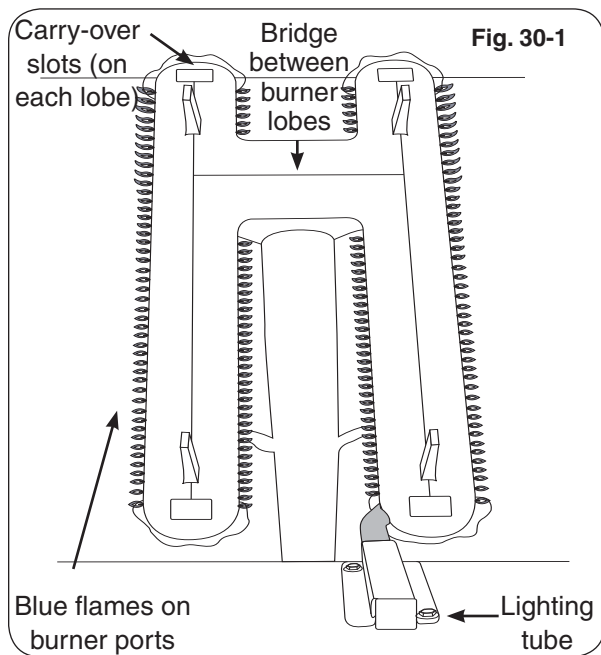

Fig. 30-1
Flames from a properly adjusted main burner with no wind or breeze present will appear fairly steady, consistent, and mostly blue. If the tip of a flame were to turn orange, it should only do so briefly and then become blue again. The flames will appear to burn while touching the burner ports (see Figure 30-1).
5. Repeat steps 1-4 until the flames appear to touch the burner ports, burning fairly steadily and mostly blue (see Fig. 30-1).